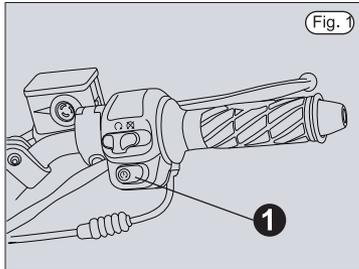

Fig. 1
- Press the start button 1 (fig.1) without opening the throttle and then release it as soon as the engine starts.
- Turn the ignition key to  (fig. 1).